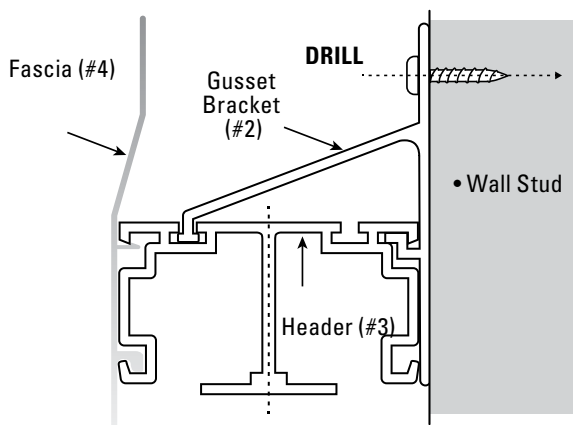

Figure 3A
B. Slide the Gusset Brackets onto the Header. One Gusset Bracket should be installed at a maximum of every 16". Quantity of Gusset Brackets will be determined by length of the Header. See **Figure 3A** for reference.
E. Now install the Header making sure that you are securing into the wall studs for support. See **Figure 3A** for reference.